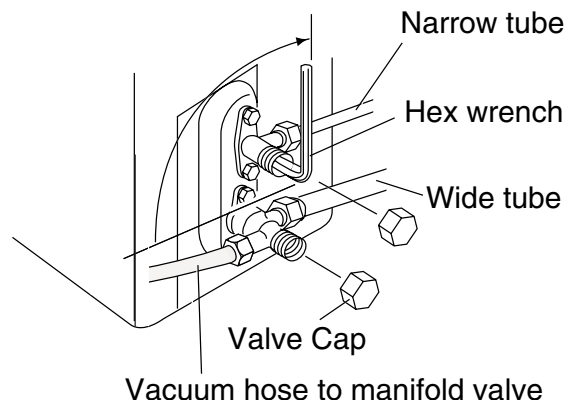

Fig. 40
2. Using a hex wrench, turn the narrow tube service valve clockwise all the way to close the service valve (Fig 40). (Be sure to confirm that the wide tube service valve is fully open.)